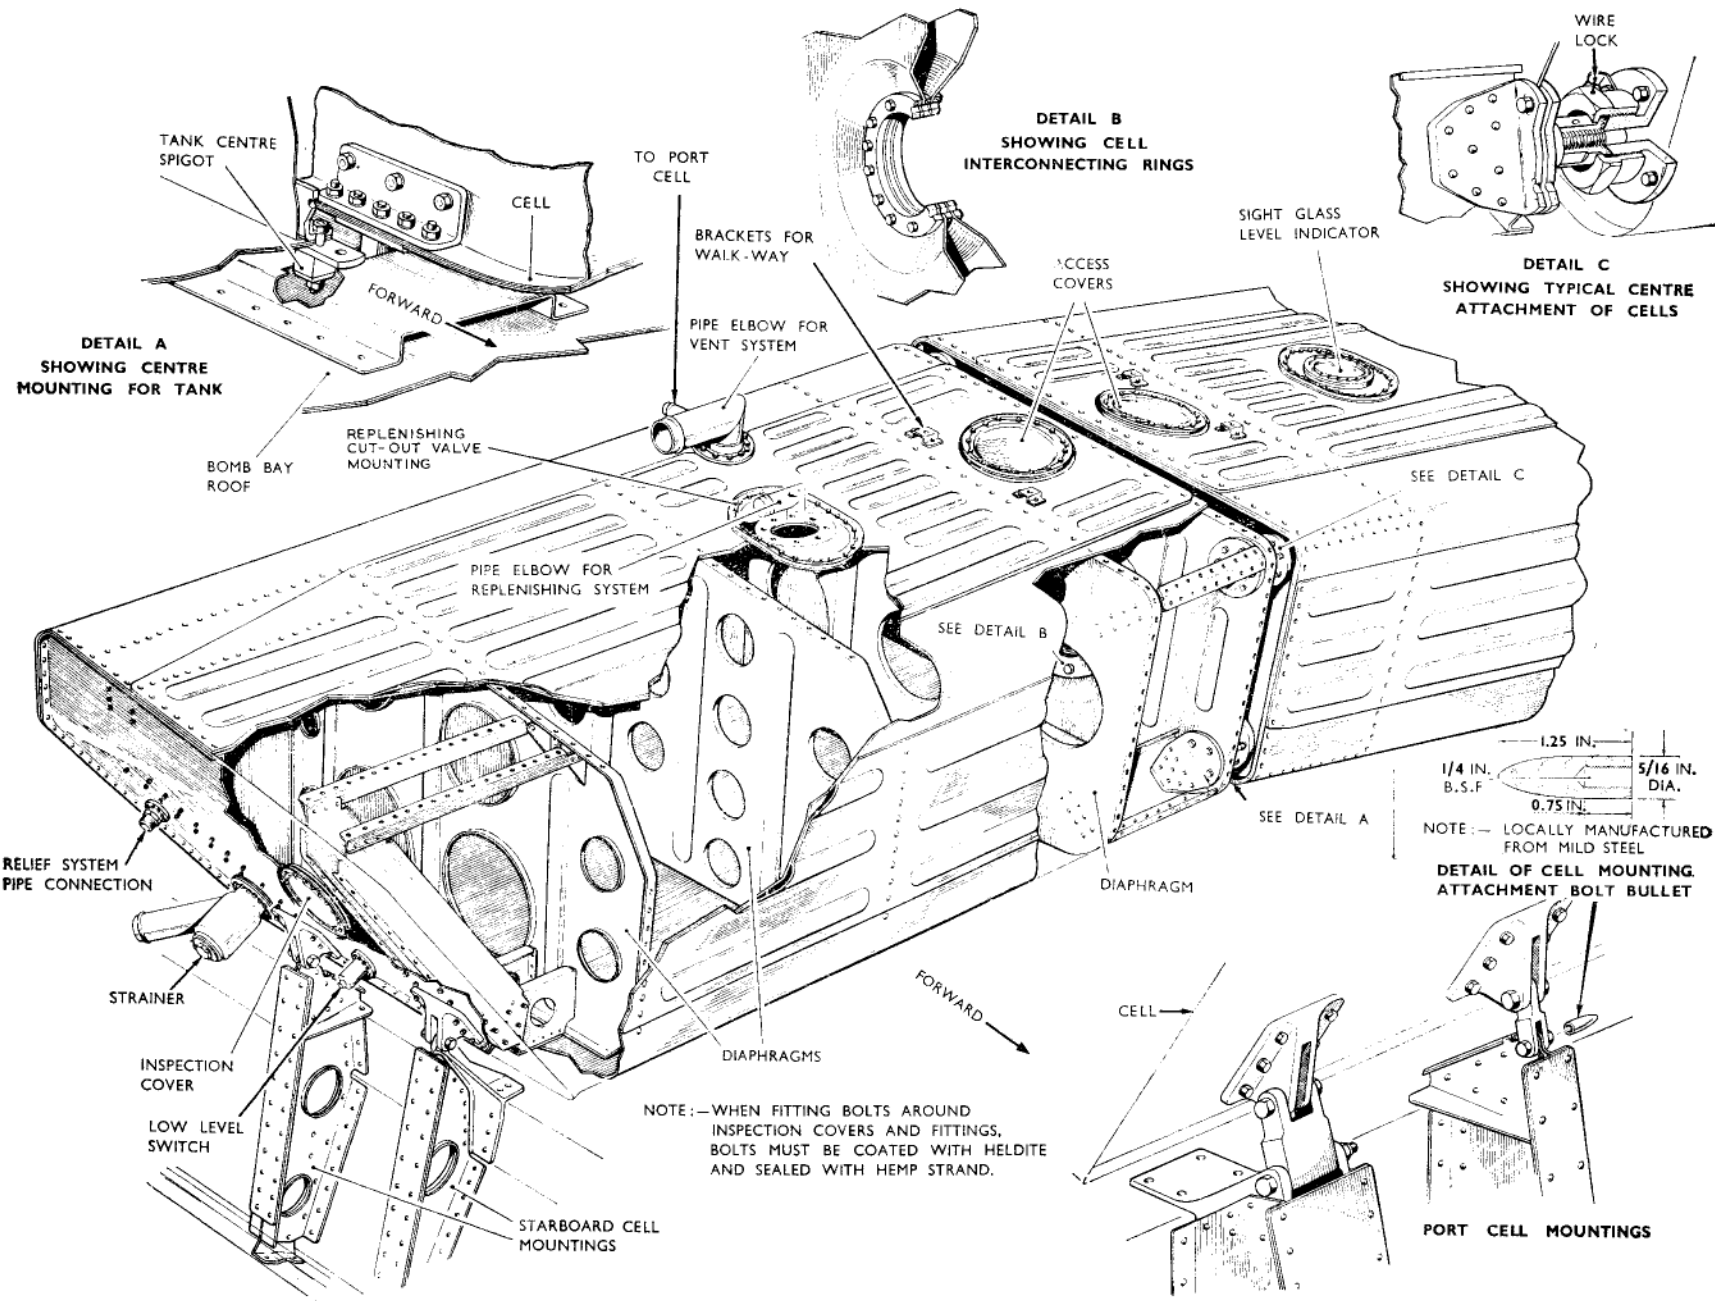

Fig. 3. Tank
Tank (fig 3)
Tank removal (fig. 3)
- (6) Disconnect the electrical socket from the low-level switch on the starboard cell outer wall.
- (7) Remove the nuts from the outboard tank attachment bolts, fit a special assembly bullet (fig. 3) to each bolt to protect the threads, and tap out the bolts.
- (8) Tilt the tank forward, release the securing bolts and remove the inter-cell balance pipe and elbows.
- (9) Remove the cover on each cell upper surface to gain access to the nuts and bolts securing the cells at the inter-connecting rings (detail B).
- (10) Release the four tank inter-cell spigot connections (detail C).
- (11) Lift the cells clear of the centre spigot connections (detail A).
- (12) Handling each cell separately, turn it into its side, keep it as high as possible and pass it between the transfer tank cells.
Tank assembly (fig. 3)